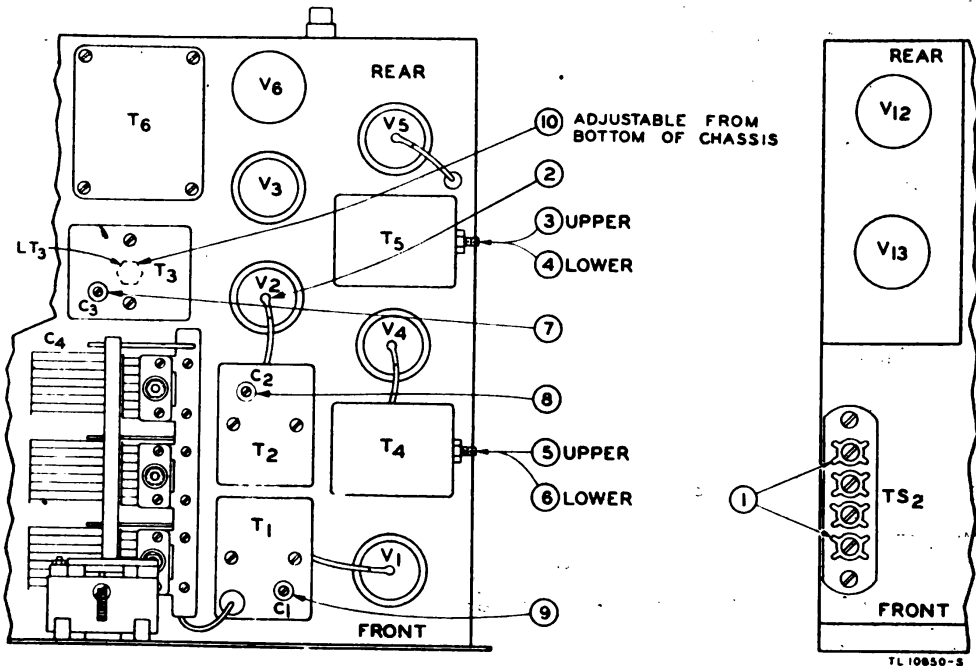

Figure 34. Receiver alignment adjustments showing r-f chassis—top view, at left; power supply—top view, at right.
c. **I-F ALIGNMENT.** (1) Turn signal generator on. Set it for 385 kc modulated output. Check frequency of signal generator using frequency meter set. (See TM 11-300.)
- (2) Remove grid lead from top of Tube JAN-6L7, V2 (fig. 34(2)).
- (3) Connect 10,000-ohm resistor between grid of V2 and chassis.
- (4) Connect hot lead of signal generator through 0.01-mf capacitor to grid of V2.
- (5) Connect ground lead of signal generator to chassis.
- (6) Connect output meter across the two outside terminals of TS2 (fig. 34(1)).
(7) Turn receiver on by plugging line cord into power source. Allow receiver to warm up 15 minutes before proceeding.
(8) Adjust secondary (fig. 34 (3)) and primary (fig. 34 (4)) of second i-f transformer, T5, for maximum output as indicated on output meter.
(9) Adjust secondary (fig. 34(5)) and primary (fig. 34(6)) of first i-f transformer, T4, for maximum output as indicated on output meter.
(10) Repeat steps 8 and 9 above.
(11) Remove 10,000-ohm resistor and 0.01-mf capacitor, and replace grid cap of V2.
d. H-F OSCILLATOR ALIGNMENT. (1) Leave the signal generator tuned to 385 kc, but remove its modulation. Couple its hot lead loosely to the grid of V2 by one turn of insulated wire wound around the lead to the grid cap.
(2) Connect a wire to the output binding post of the frequency meter set and place the free end of the wire *near but not touching* the lead to the grid cap of V2.
(3) Tune receiver dial and frequency meter set to 2,700 kc.
(4) Adjust h-f oscillator trimmer capacitor C3 (fig. 34(7)) for zero beat as heard in the handset of the receiver.
(5) Tune receiver dial and frequency meter set to 1,800 kc.
(6) Loosen locknut and adjust h-f oscillator coil slug LT3 (fig. 34(10)) for zero beat as heard in handset of receiver.
(7) Repeat steps 3, 4, 5, and 6 above until alignment is correct at both ends of the frequency band. Then tighten locknut on LT3, making certain the adjusting screw does not shift.
(8) Disconnect the signal generator and frequency meter set.
e. R-F ALIGNMENT. (1) Loosely couple unmodulated output of signal
(2) Connect signal generator hot lead through series 30-ohm resistor and 0.0005-mf capacitor to antenna terminal of set. Use modulated signal.
(3) Tune receiver dial to 2,700 kc.
(4) Adjust antenna and mixer grid coil trimmer capacitors C1 and C2 (fig. 34(8) and (9)) for maximum indication on output meter.
(5) Disconnect signal generator. Remove the line cord plug from the power source. Remove the clip or connector from the safety switch before closing the front panel.
(6) Replace line cord plug.